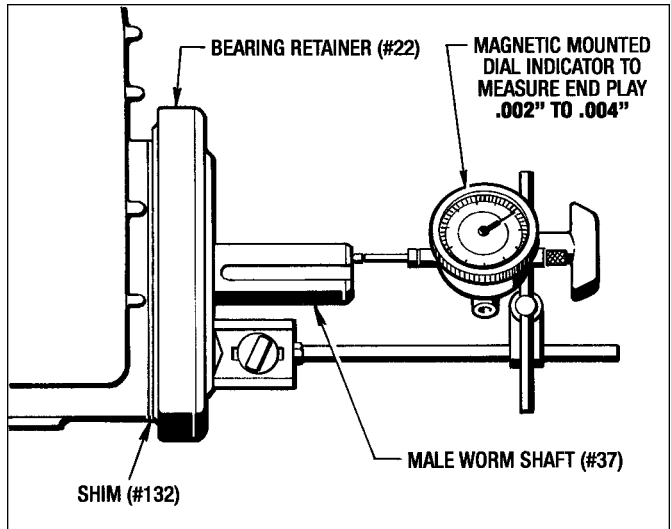

Figure 7.12 - Checking Worm Shaft End Play
10. Install the Shims (#132) and the Bearing Retainer (#22) with the (4) Lockwashers (#174) and (4) Screws (#145) back on the drive side.
11. Install a new Gasket (#322) and attach the Adapter (#308) with (4) Lockwashers (#319) and (4) Screws (#315) to the brake side of the Main Housing.
12. The **End Play** of the Worm Shaft must be checked before going any further. This can be done by setting a Dial Indicator on the end of the Worm Shaft and manually pushing the shaft in and out while rotating it. The **End Play should be between .002" and .004"**. Add or subtract Shims (#132) as necessary. (See Figure 7.12)